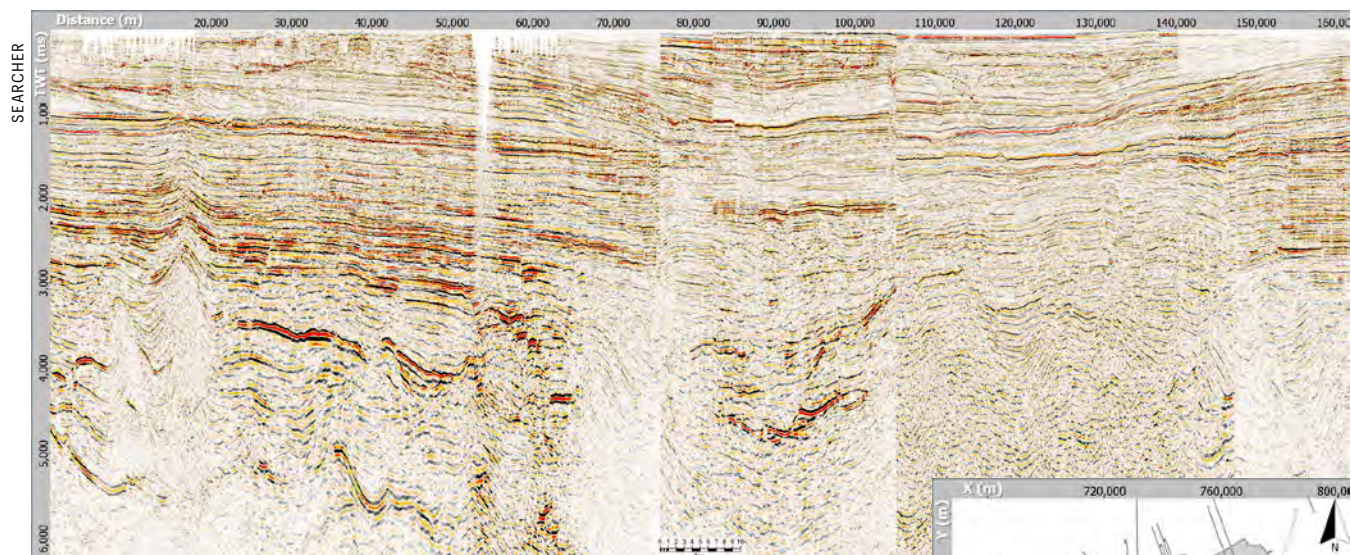

Figure 2: Arbitrary line through the legacy Sable Island 3Ds being reprocessed.
The educational grey radiation model cannot explain cooling of the stratosphere. Therefore, it has to be extended to the window-grey model (see Figure 2).
Figure 2: Sketch of the window-grey radiation model introduced by Goessling and Bathiany (2016). The atmosphere is transparent to the Sun's shortwave radiation in the solar band. The Earth heats and sends upwards longwave, infrared (IR) radiation. Part of the radiation goes upward in Earth's atmospheric IR window, being transparent to radiation. The rest radiates in the grey atmosphere (see Part XIII, GEO ExPro Vol. 18, No. 6) where IR radiation is absorbed by thin layers in the atmosphere. The layers heat and re-radiate energy to space and back to the surface.  $F_+$  and  $F_-$  denote upward and downward fluxes, respectively. Earth's surface at level  $z=0$  radiates as a blackbody with flux  $F_+(0)+W=\pi B^*$ . At the top of the grey atmosphere there is no downgoing IR radiation,  $F_-(1)=0$ . The Earth is in energetic equilibrium between the radiation it receives from the Sun and the radiation it emits to outer space. The condition of radiative equilibrium requires that the net flux at any given depth,  $F_+(h) - F_-(h)$ , remains constant. The grey radiation model is the special case of no transparent IR band ( $\delta=0$ ).
Goessling and Bathiany (2016) suggest extending the grey model to the simple case of two IR bands, as shown in Figure 2. The first band is fully transparent and corresponds to the atmospheric IR window. The second band is the grey IR band which we have thoroughly discussed in Part XIII. It is straightforward to generalise the differential equations presented in Part XIII to take into account the atmospheric window part. The Earth acts as a blackbody in the IR region, radiating according to its surface temperature  $T^*$  the flux  $\pi B^*$  upwards. Part of this flux,  $W=\delta\pi B^*$ , radiates in the atmospheric window. The rest  $F+(0)=(1-\delta)\pi B^*$ , radiates in the grey window. Assume that the absorption coefficient is  $\beta_0$ . The source term in the differential equation for the upward flux in the